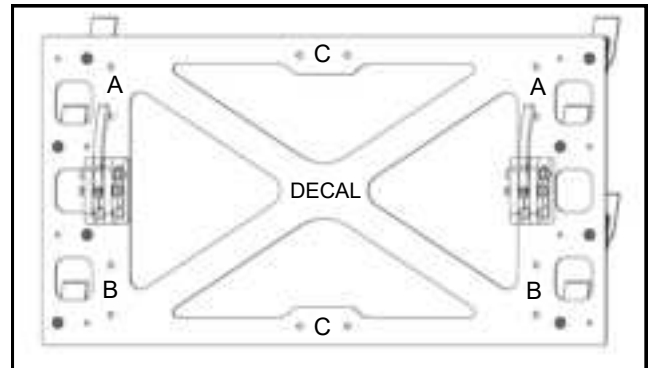

Fig. 2 (optional cam lever latch locations)
2. The cam lever latches are factory installed in the middle set of holes where shown in figure 2. At the user's discretion, the latches can be relocated to the set of holes marked "A" or "B". The entire plate assembly can also be rotated 90 degrees if preferred. In that case, utilize any set of holes provided in location "C". Note: a loose Artillian decal has been provided and should be placed at the center of the "X" so that it is legible in the desired horizontal or vertical orientation.